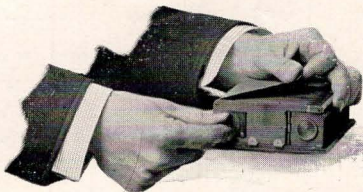

Fig. 2.
V. Holding the black paper taut with the left hand, bear on the ratchet wheel with the thumb and first finger of the right hand and turn to the left (see Fig. 2) until the paper is all on the reel and fasten it securely by moistening the gummed end and sticking it down.